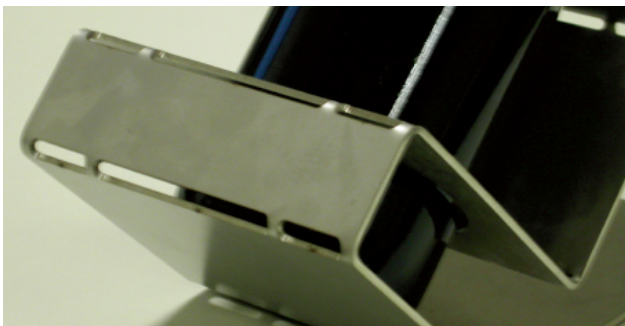

Fig. 8.27
- If a certain product cannot be produced on the bending bench then there is also the option of bending it by hand. In this case, make small notches on the bending line to preserve the bending position and to reduce the bending force required. (Fig. 8.27)